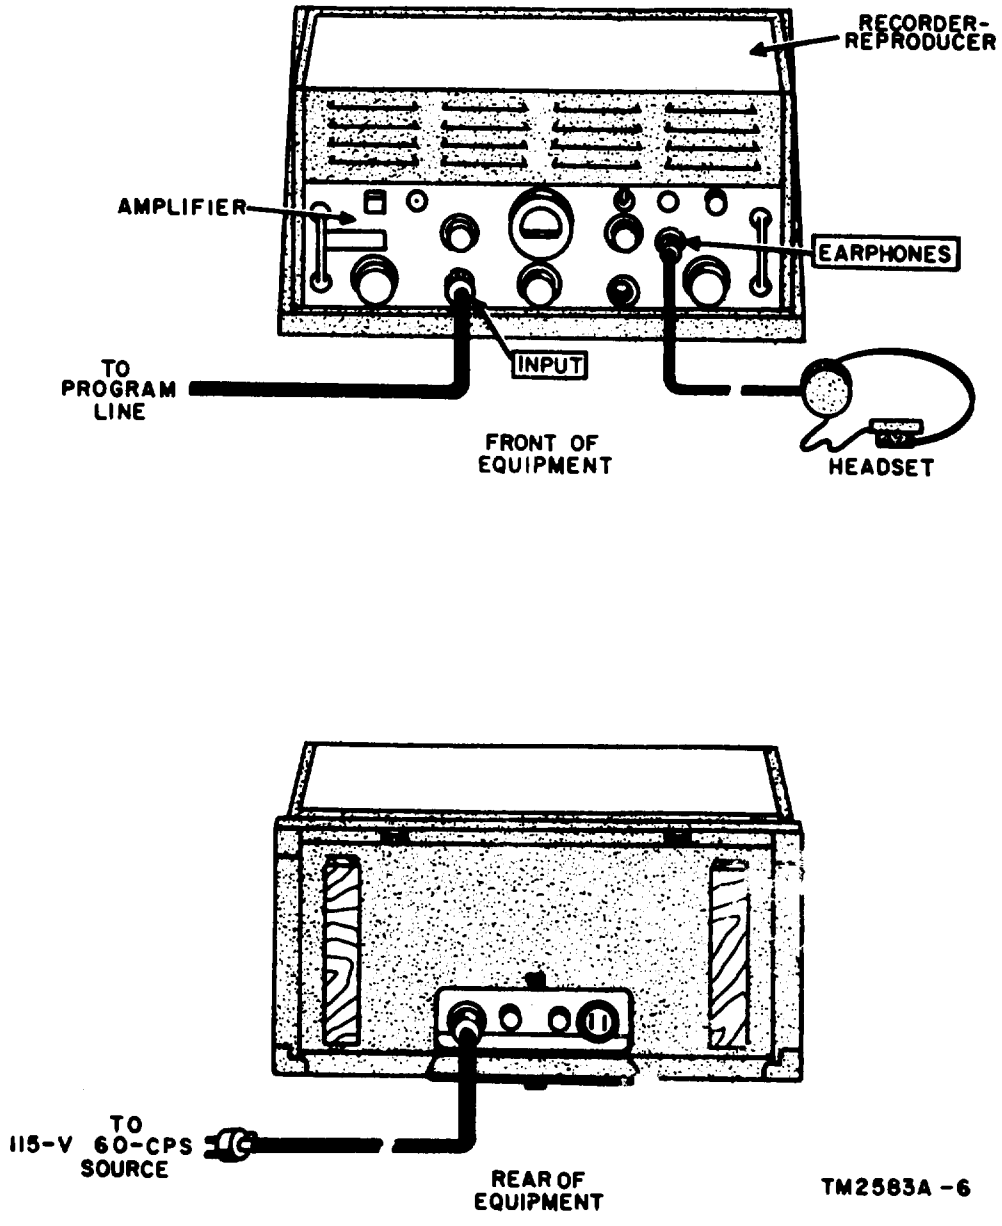

Figure 10. Equipment setup for program line recording.
16. Program Line Recording (fig. 10)